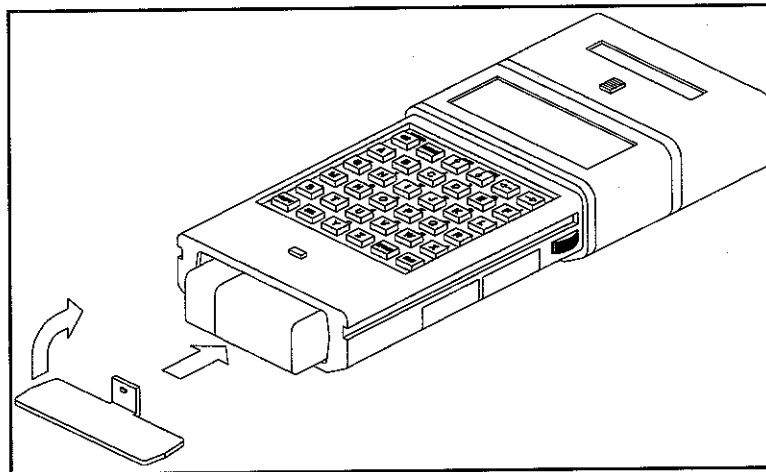

Figure 17 - Battery Compartment
The battery compartment is located at the base of the unit. Refer to Figure 17.
- Connect the new 9V battery and slide it into the battery compartment with the positive (+) contact going in first. Make sure that the contacts on the top of the battery slide all the way into the connector. Refer to Figure 17.